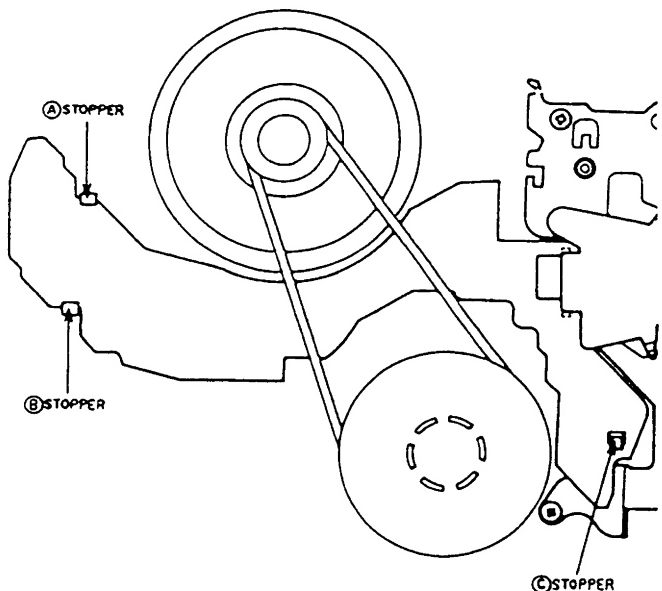

Fig. 3-6
1) Disconnect the connector P303 on the MAIN (A) PCB.
3) Release the (A), (B) and (C) stoppers as shown in Fig. 3-6. Then remove the SENSOR PCB.